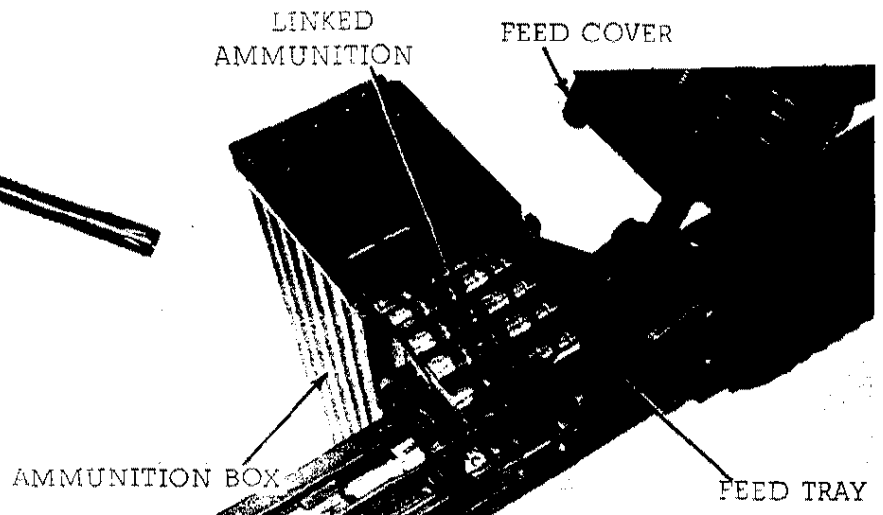

FIGURE 9. LINKED AMMUNITION INSTALLED ON FEED TRAY
a. Loading the Plastic Ammunition Box. The plastic ammunition box (figure 9) has a 100 round capacity and may be loaded with any amount up to that capacity.
b. Loading the Weapon. The rounds should be securely assembled and positioned in their push-through type links. Set the safety on "Safe", pull the cocking handle to the rear, return the cocking handle to its locked position. Unlatch and raise the feed cover (figure 9). The feed tray should remain down on the receiver. Remove the cover from the plastic ammunition box and insert it in the other side of the box leaving it partly open. Attach the box to the tray, place the linked belt on the feed tray (figure 9) with the first round to be fired in the feed groove. The feed tray belt-holding pawl will then engage the second round. The ammunition belt must be positioned with the open side of the links facing down to permit stripping of the cartridge from the link. Close the ammunition box cover completely. Close the feed cover, making sure that it is latched securely.